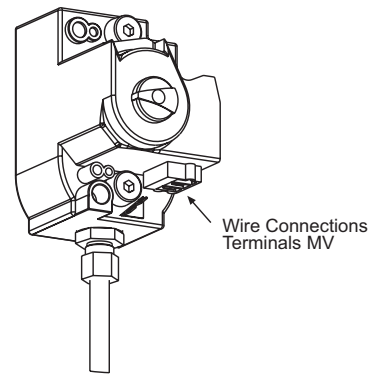

FIGURE 5
1. Locate the two (2) blue wires from the ignition Control Assembly. Refer to the wiring diagram located in Section 8, *Electrical Connections*.
2. Connect the wires to Terminals MV of the gas valve. See Figure 5.